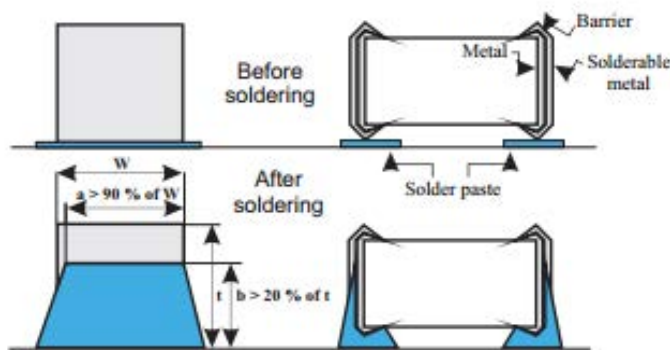

Figure 4: Soldering Criterion in case of Wave and IR Reflow Pb-containing Soldering
**Pb-containing Wave and IR Reflow Soldering** – typical “before” and “after” soldering results for Barrier Type End Terminations can be seen in Fig. 4. Barrier type terminated varistors form a reliable electrical contact and metallurgical bond between the end terminations and the solder pads. The bond between these two metallic surfaces is exceptionally strong and has been tested by both vertical pull and lateral (horizontal) push tests. The results exceed established industry standards for adhesion.